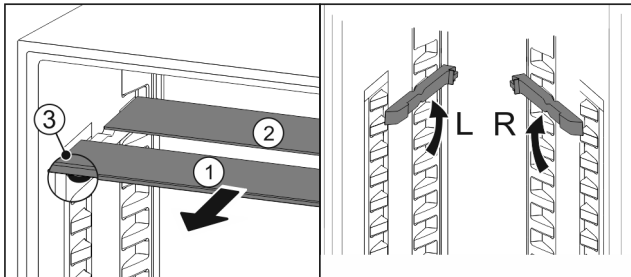

Fig. 24
- ▶ Pull the glass panel out Fig. 24 (1) from the front, one at a time.
- ▷ The glass panel Fig. 24 (1) and trim strip are at the front.
- ▷ The stops Fig. 24 (3) point down.